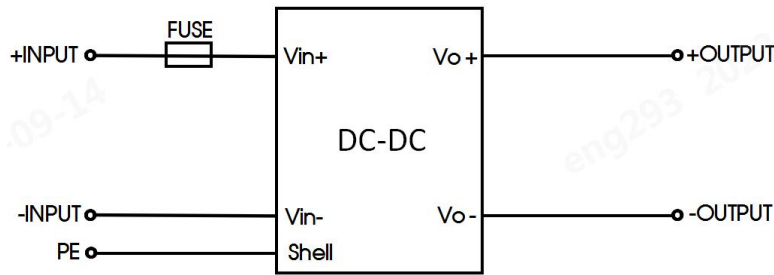

Fig. 1
- Note: 1. Please refer to Fig 1 for common applications;